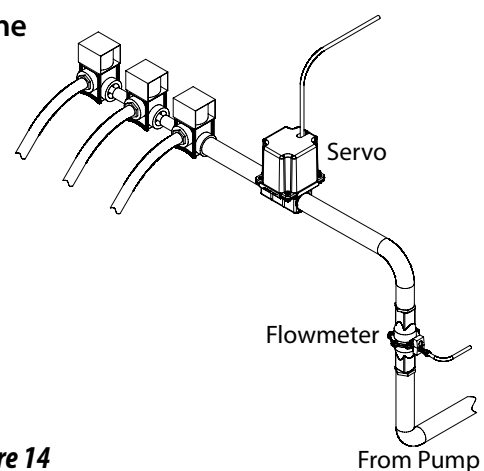

Figure 14
**NOTE:** For Inline operation, the servo valve is installed in the main spray line as shown in Figure 14.